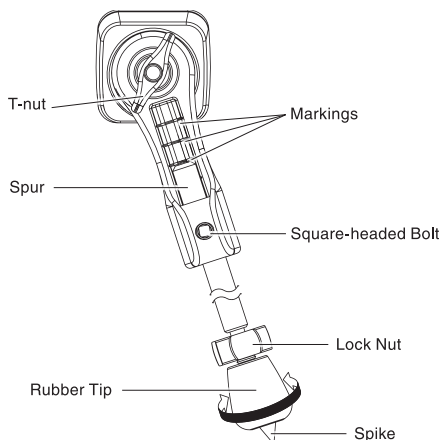

Fig. 1-2A
Bass drum spurs are included in the parts box. Attach the spur to the spur bracket and set the bass drum upright. As shown in Fig. 1-2A, loosening the square-head bolt allows the spur height to be adjusted. When adjusting the spur height, use the markings on each spur bracket to place the spurs in matching positions. Loosening the T-nut allows the spur bracket to fix the bass drum spurs according to position (A). When adjusting the bass drum height, make sure that the palm of your hand fits between the floor and the bottom of the resonant side hoop to obtain a good sound.
As shown in Fig. 1-2A, a rubber tip or spike can be used at tip of the spur. The spike can be used when the drums are placed on a carpet or rug, and the rubber tip when the drums are placed on a hard surface. The rubber tip's position can be secured by tightening the locknut.